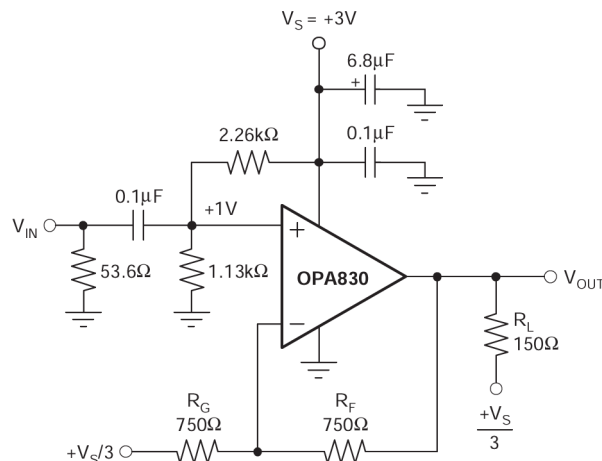
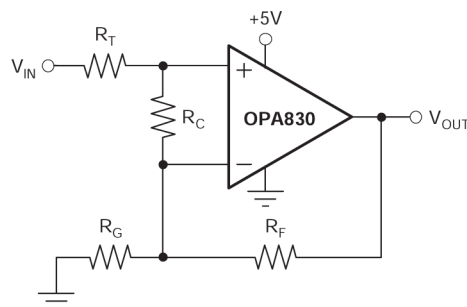

図 8-2. AC-Coupled, $G = +2$, +3V Single-Supply Specification and Test Circuit
図 8-9. Compensated Noninverting Amplifier
at $T_A = 25^\circ\text{C}$, $G = +2$, and $R_L = 150\Omega$ to $V_S/3$ (unless otherwise noted); see also Figure 8-2
図 8-2 shows the ac-coupled, gain of +2 configuration used for the 3V *Electrical Characteristics* and *Typical Characteristics*. For test purposes, the input impedance is set to 50Ω with a resistor to ground. Voltage swings reported in the *Electrical Characteristics* are taken directly at the input and output pins. For the circuit of 図 8-2, the total effective load on the output at high frequencies is 150Ω || 1500Ω. The 1.13kΩ and 2.26kΩ resistors at the noninverting input provide the common-mode bias voltage. The parallel combination equals the dc resistance at the inverting input (R_F), reducing the dc output offset due to input bias current.
Frequency response in a gain of +2 can be modified to achieve exceptional flatness simply by increasing the noise gain to 3. One method, without affecting the +2 signal gain, is to add a 2.55kΩ resistor across the two inputs (see also Figure 8-9). A similar technique can be used to reduce peaking in unity-gain (voltage follower) applications. For example, by using a 750Ω feedback resistor along with a 750Ω resistor across the two op amp inputs, the voltage follower response is similar to the gain of +2 response of Figure 8-2. Further reducing the value of the resistor across the op amp inputs further dampens the frequency response due to increased noise gain. The OPA830 exhibits minimal bandwidth reduction going to single-supply (5V) operation as compared with ±5V. This minimal reduction is because the internal bias control circuitry retains nearly constant quiescent current as the total supply voltage between the supply pins changes.
The criterion for setting this R_S resistor is a maximum bandwidth, flat frequency response at the load. For a gain of +2, the frequency response at the output pin is already slightly peaked without the capacitive load, requiring relatively high values of R_S to flatten the response at the load. Increasing the noise gain also reduces the peaking (see Figure 8-9).
図 8-9 shows a noninverting amplifier that reduces peaking at low gains. Resistor R_C compensates the OPA830 to have greater noise gain (NG), which reduces the ac response peaking (typically 5dB at $G = +1$ without R_C) without changing the dc gain. V_{IN} must be a low impedance source, such as an op amp. The resistor values are low to reduce noise. Using both R_T and R_F helps minimize the impact of parasitic impedances.